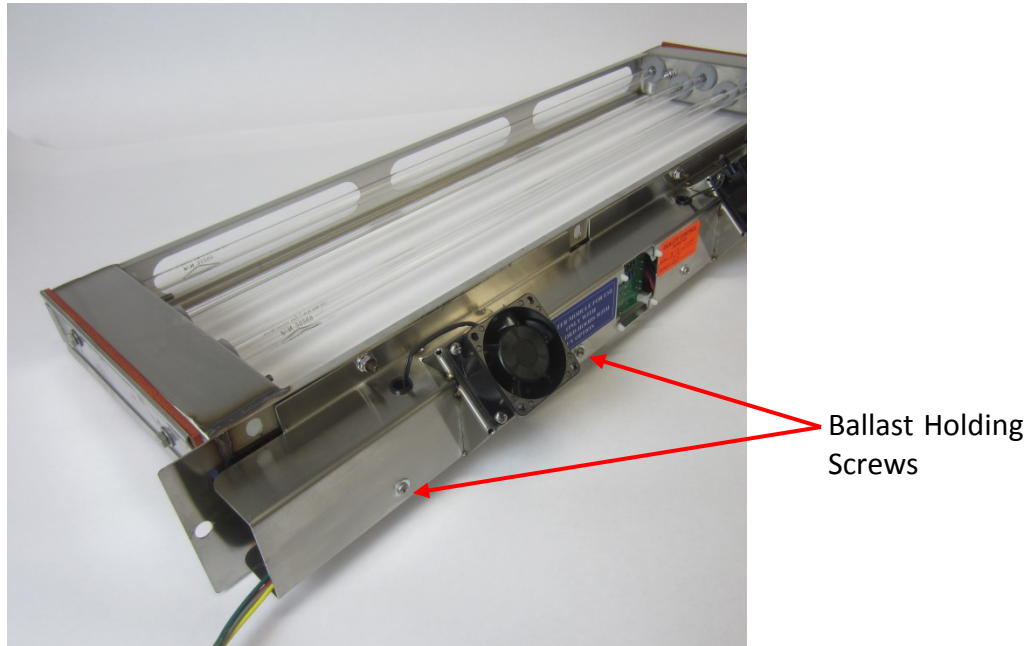

Figure 6-23-1
8. Remove the two Ballast Holding Screws, for the Ballast that needs replacing, that hold the Ballast to the Ballast Raceway (Refer to Figure 6-23-1)